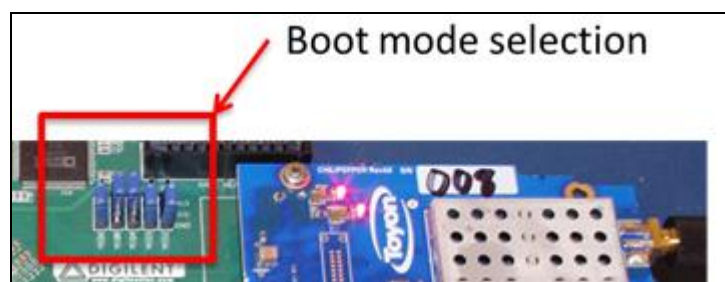

Figure 4-3: Jumper configuration needed to load a project via SD card
2. Configure the jumpers on the FPGA as shown in Figure 4-3.